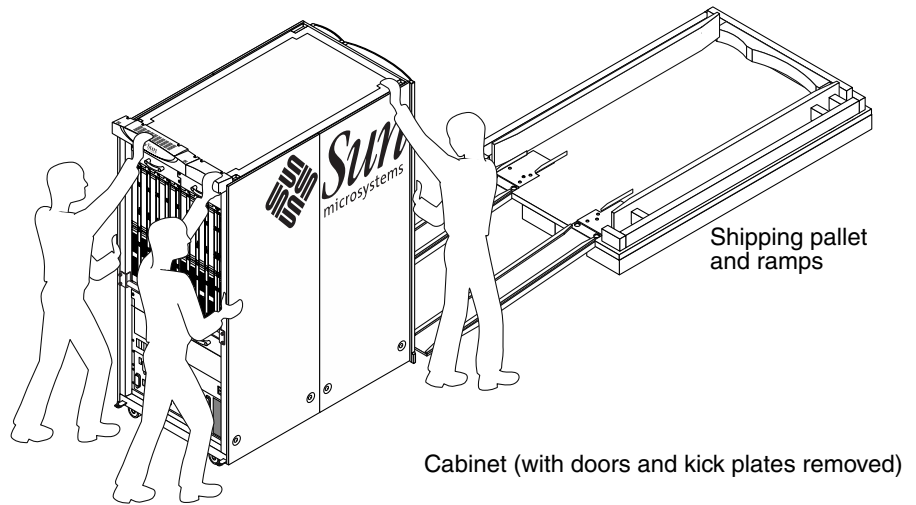

FIGURE 4-3 Installed Ramps on Pallet Deck
3. Align the cabinet wheels at the leading edge of the two ramps (FIGURE 4-3).